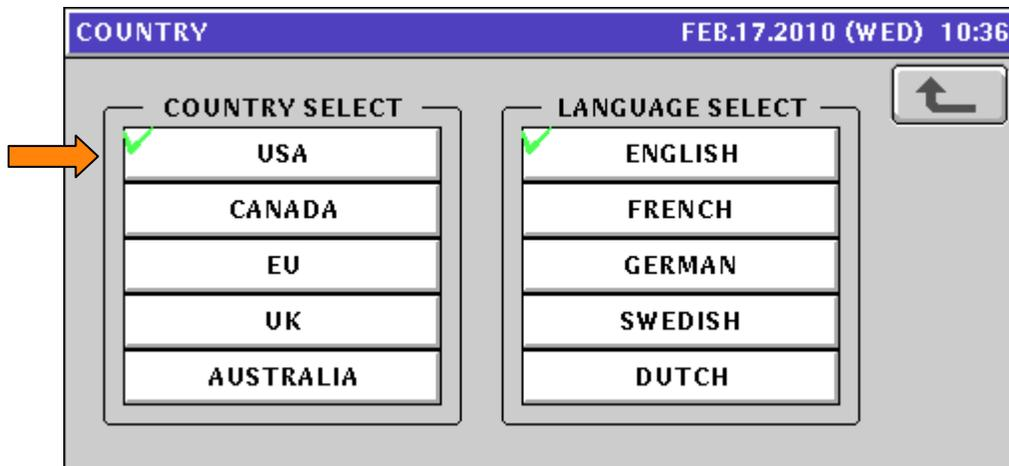

Figure 2.1. Country Select: USA
5. Confirm **ENGLISH** is selected. See Figure 2.1.
7. Select **USA**. See Figure 2.1.